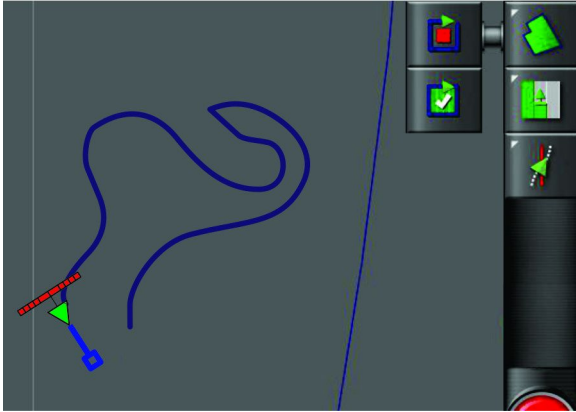

Figure 44
1. When you are close to the beginning point of the field boundary, stop the machine (Figure 44).